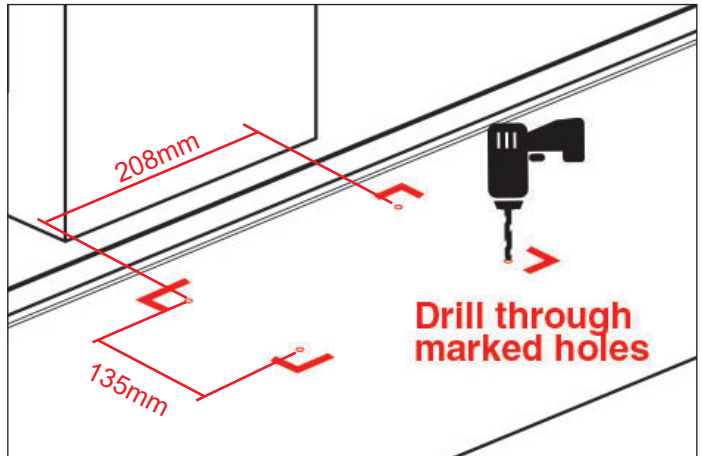

Fig 8
- Using a M12 masonry drill bit, drill holes to a minimum depth of 120mm (Fig 8).